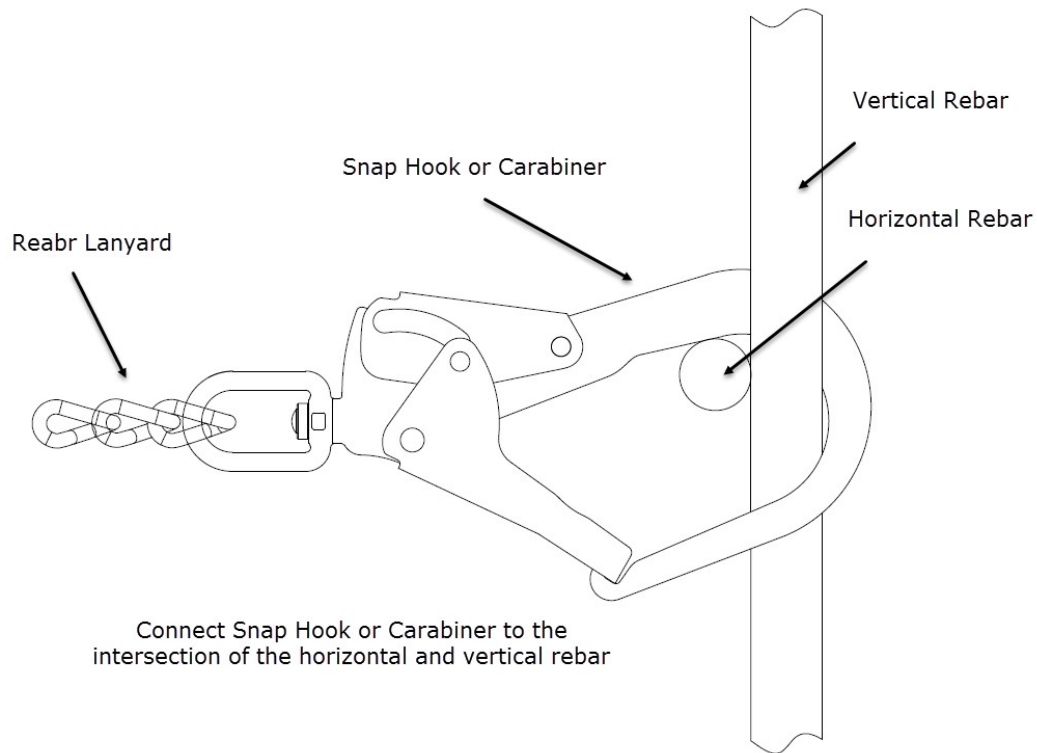

Figure 5 – Connecting To your body support
- b CONNECTING TO THE ANCHORAGE:** Connect the snap hook on the rebar lanyard to the intersection of the horizontal and vertical rebar, as shown in Figure 5.